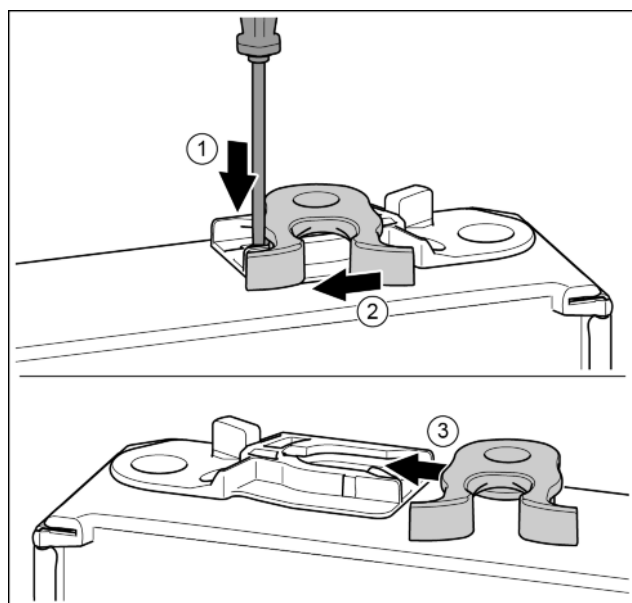

Fig. 18*
- Push the tab downwards with a slotted screwdriver.* Fig. 18 (1)
- Pull the door latch out of the guide.* Fig. 18 (2)
- Push the door latch into the guide on the other side.* Fig. 18 (3)